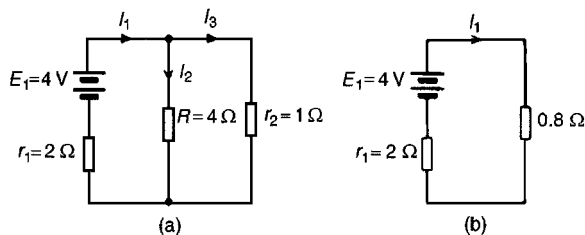
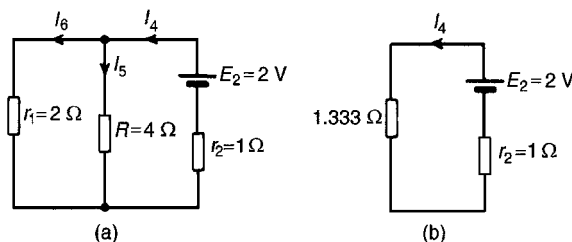
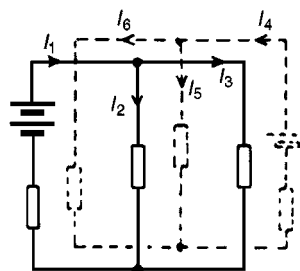

Figure 13.16
Figure 13.17
Figure 13.18
- 1 Redraw the original circuit with source E_2 removed, being replaced by r_2 only, as shown in Fig. 13.16(a)
- 2 Label the currents in each branch and their directions as shown in Fig. 13.16(a) and determine their values. (Note that the choice of current directions depends on the battery polarity, which, by convention is taken as flowing from the positive battery terminal as shown)
From the equivalent circuit of Fig. 13.16(b),
- 3 Redraw the original circuit with source E_1 removed, being replaced by r_1 only, as shown in Fig. 13.17(a)
- 4 Label the currents in each branch and their directions as shown in Fig. 13.17(a) and determine their values.
From the equivalent circuit of Fig. 13.17(b)
From Fig. 13.17(a),
- 5 Superimpose Fig. 13.17(a) on to Fig. 13.16(a) as shown in Fig. 13.18